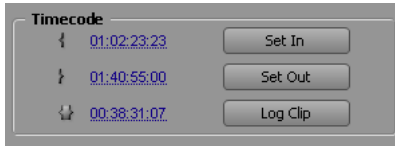

Figure 7-15: Logging clips.
- 1 In the Capture panel, use the *Set In* and *Set Out* buttons (Figure 7-15) to specify the desired log region.
- 2 Click the *Log Clip* button (Figure 7-15) to log the clip you specified, and name the clip when prompted.